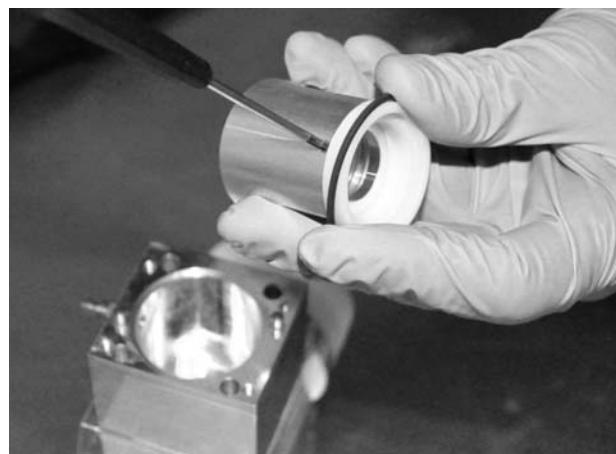

Figure 118: Removing the attenuator tube cap
4. Use the 1.5 mm allen key to carefully unscrew the two screws and remove the plastic cap from the attenuation tube (see Figure 118). Take into account that the attenuators in the tube are clamped in position by a spring.